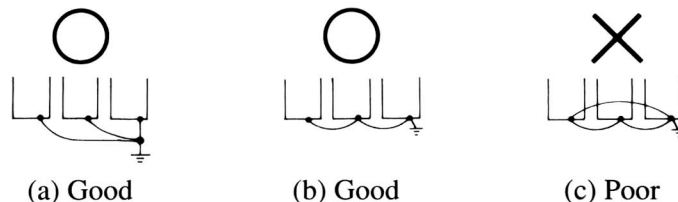

Fig. 2 Grounding of Three Units
- Do not connect the AC main circuit power supply to output terminals (P) or (N). Otherwise, the voltage doubler unit may be damaged.
- Ground the casing of the voltage doubler unit using ground terminal (E). Ground resistance should be 100 Ω or less.
- Where several voltage doubler units are used side by side, all the units should be grounded as shown in (a) or (b) of Fig. 2. Do not form a loop with the ground leads.